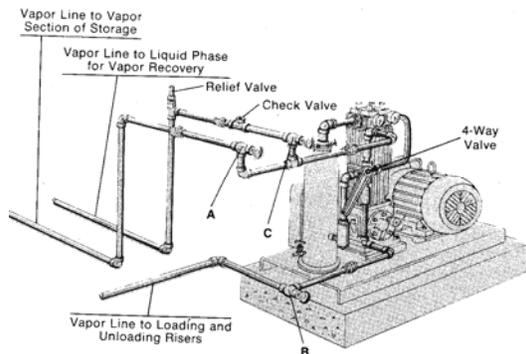
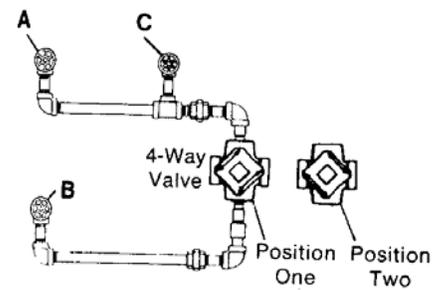

Figure 5.1.3a.
Figure 5.1.3b
5. Examine the plant piping and flow control valves. Determine how vapor will move from the bulk storage tank(s) to the suction side of the compressor and on to the cargo tank. Figure 5.1.3a illustrates typical bulk plant compressor connections, while Figure 5.1.3b illustrates the compressor 4-way valve positions for loading, unloading and vapor recovery. The chart below the illustrations gives the typical operating status of valves for the bulk plant connections illustrated for loading the cargo tank.